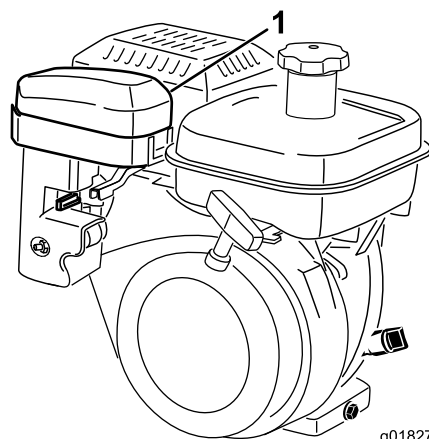
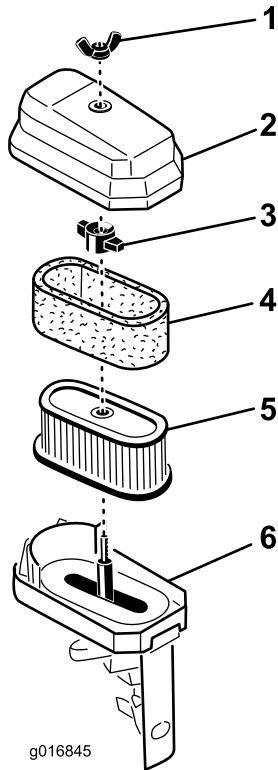

Figure 36
Figure 37
- Clean the cover (Figure 36 and Figure 37).
- If the foam element is dirty, remove it from the paper element (Figure 37). Clean it as follows.